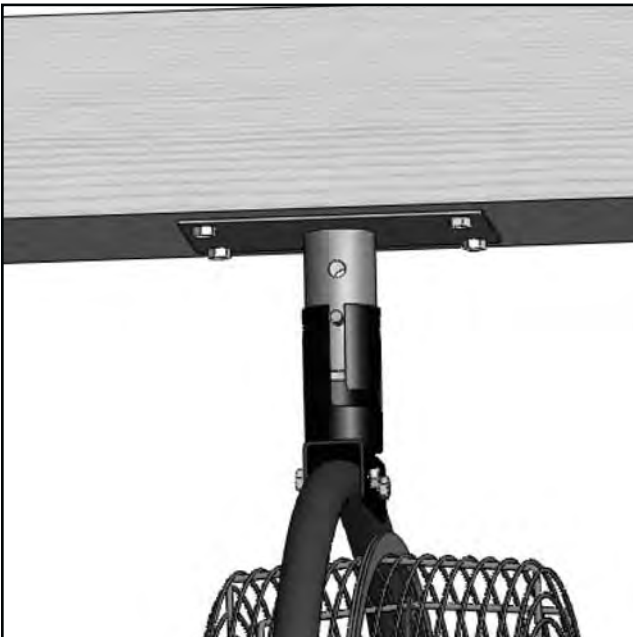

Figure 7:
2. Slide Connector Bracket (Item #4*) onto Ceiling Mounting Post. (See Figure 7**)